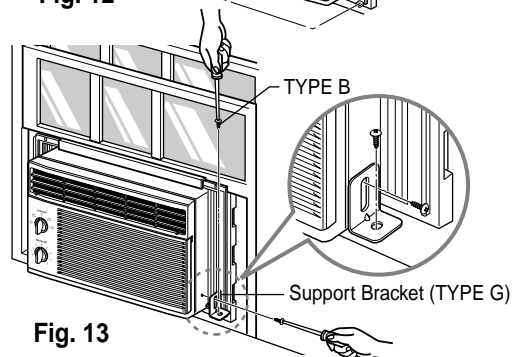

Fig. 13
- Fasten the support bracket (TYPE G) using a removed screw. Attach the support bracket (TYPE G) in the inner window sill with a screw (TYPE B), as shown Fig. 13.